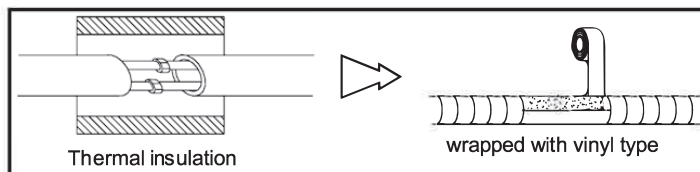
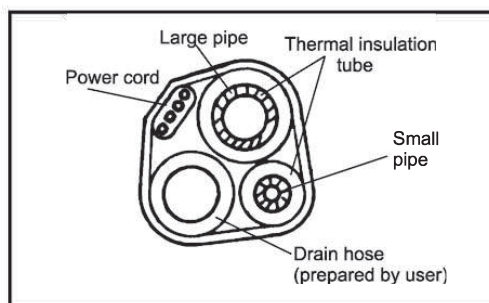

Fig. 15
Fig. 17
7) After connecting piping as required, install the drain hose. Then connect the power cords. After connecting, wrap the piping, cords and drain hose together with thermal insulation materials(Fig.15-Fig.17).